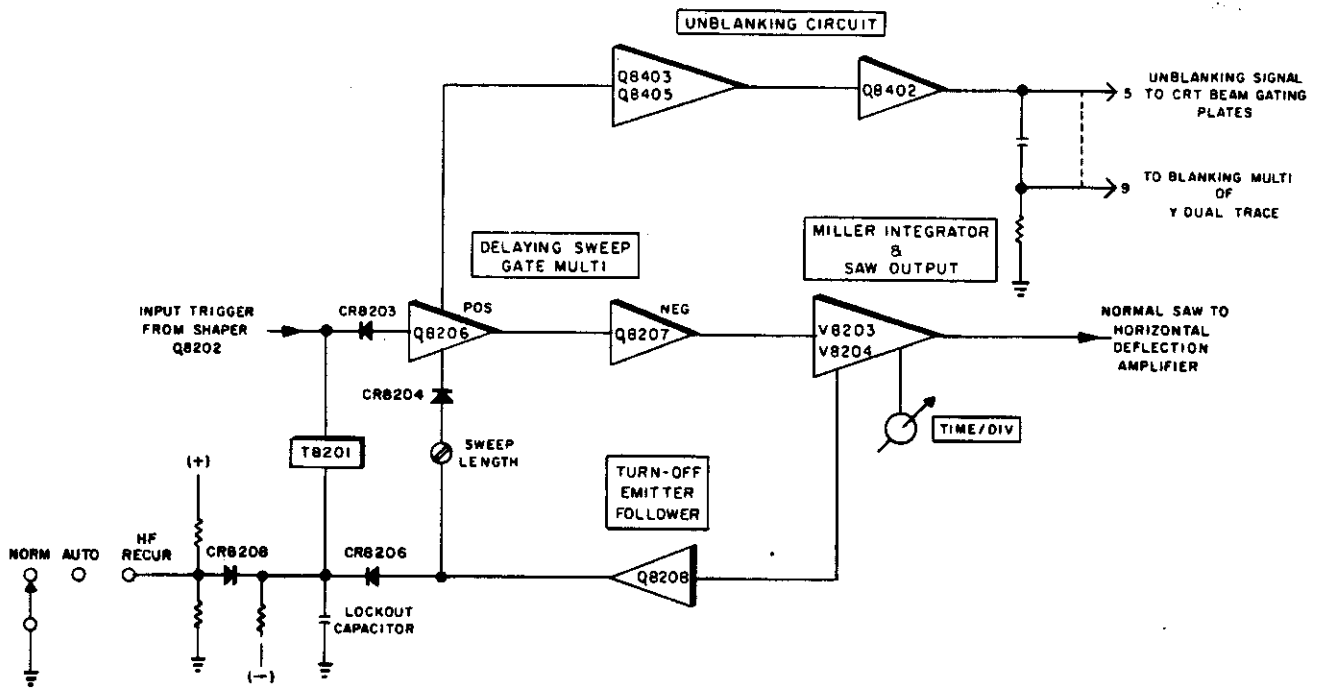

Figure 3-2. Normal Sweep Mode, Functional Block Diagram
- Figure 3-2. Normal Sweep Mode, Functional Block Diagram
3-3. CIRCUIT DESCRIPTION OF NORMAL SWEEP (Figures 3-2 and 3-3)